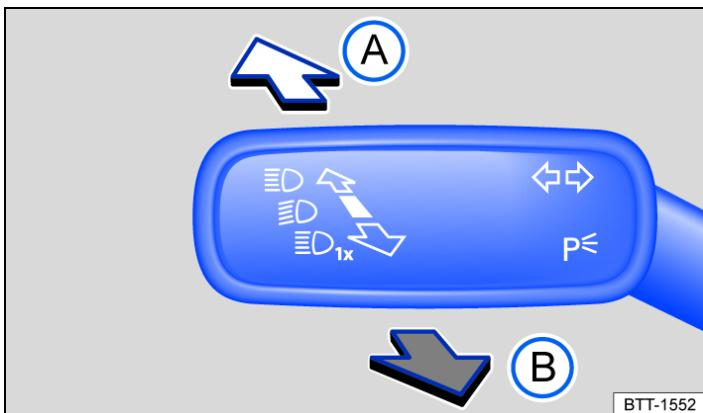

Fig. 1 On the left-hand side of the steering column: turn signal and main beam lever.
- Move the turn signal and main beam lever from the centre position to the following position → *Fig. 1*:
- (A) Main beam switched on.
- (B) Operate the headlight flasher or switch off the main beam. The *headlight flasher* comes on for as long as the lever is pulled.